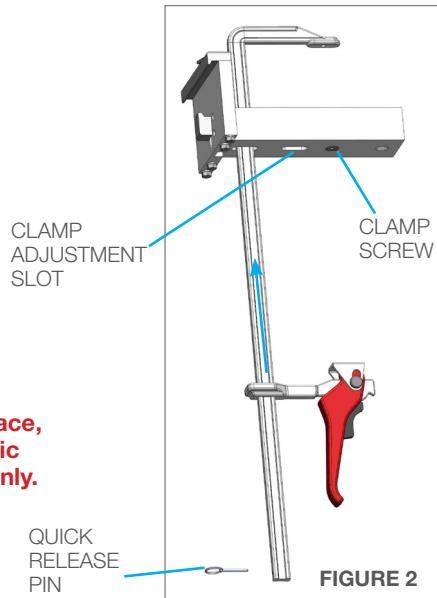

FIGURE 2
2. If more stand-off is needed from the face of the bundle, it is possible to adjust the Clamp by depressing the tang on the bottom of the vertical bar, sliding off the yellow Handle Assembly, unscrewing the Clamp from the Channel, and moving the Clamp to the open slot. Relocate the screw to the next position, tighten, and attach the red handle assembly. (**Figure 2**)
2. Remove the bottom plate and discard the four 1/4" flat head cap screws. **(Figure 2)**